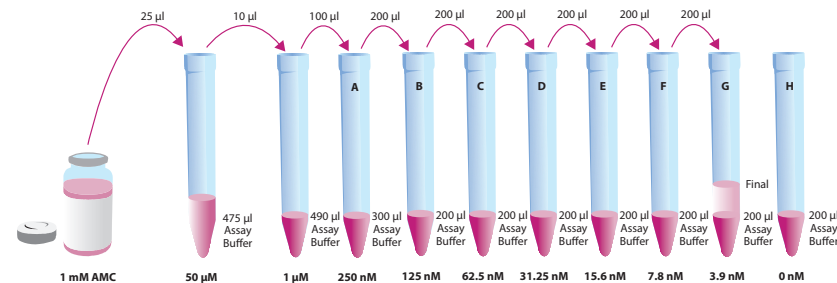
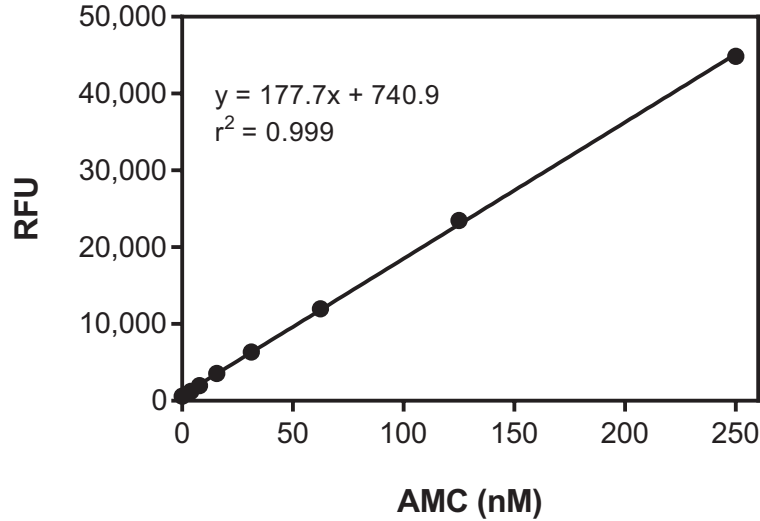

Figure 2. Preparation of the AMC standards
Figure 3. AMC standard curve
2. Plot the average fluorescence values (from step 1 above) of each standard as a function of the final concentration of AMC from Figure 2, on page 11. See Figure 3 on page 14 for a typical standard curve.